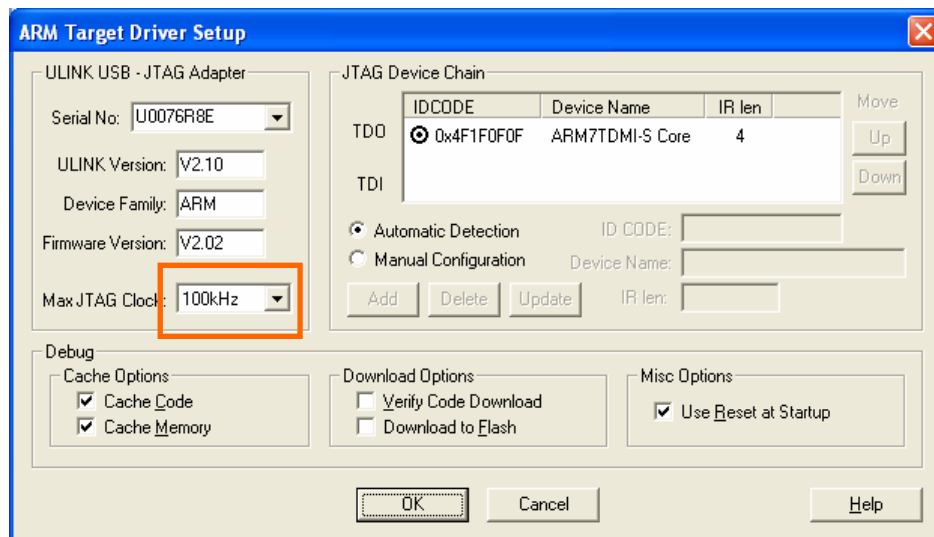

Figure 2-10. µVision3 ULINK Debugger Settings
2. Press the “Settings” button on this tab pane. A new dialog, as shown in Figure 2-12, should appear. Match the settings as appears in Figure 2-10. It is possible that a JTAG clock speed of 100kHz may be too fast for either your target or your ULINK; consequently, if you have problems at 100 kHz, please decrease this and try again.